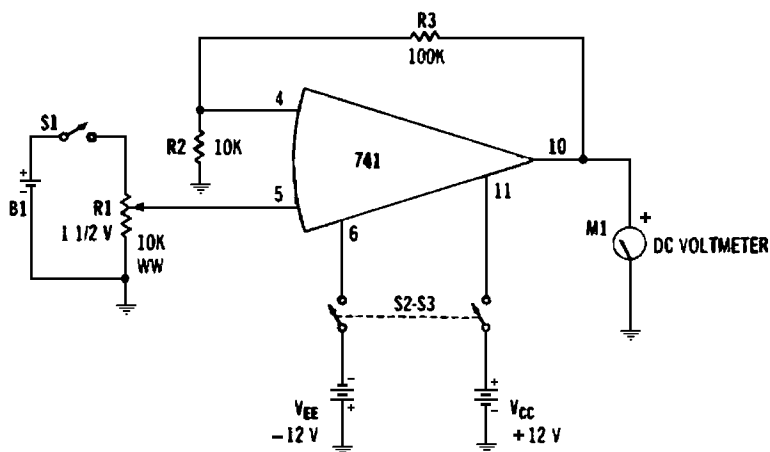

Fig. 2-5. Output polarity (step 2).
1. With switches S1 and S2-S3 open and with potentiometer R1 set to zero, set up the test circuit as shown in Fig. 2-5. Watch the meter polarity.